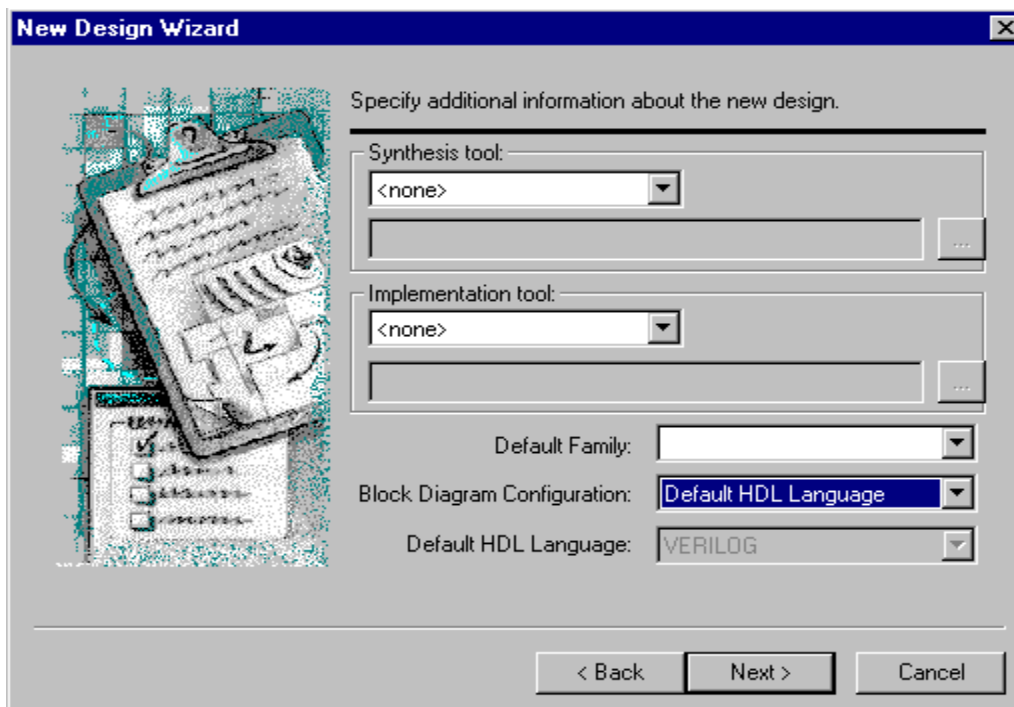

Figure 4
2. Find the “Block Diagram Configuration” field and select the “Default HDL Language” option. Leave the “Synthesis tool” field and the “Implementation tool” field blank since we will not be synthesizing yet. Your New Design Wizard window should look like Figure 4. If so, then click the Next button.